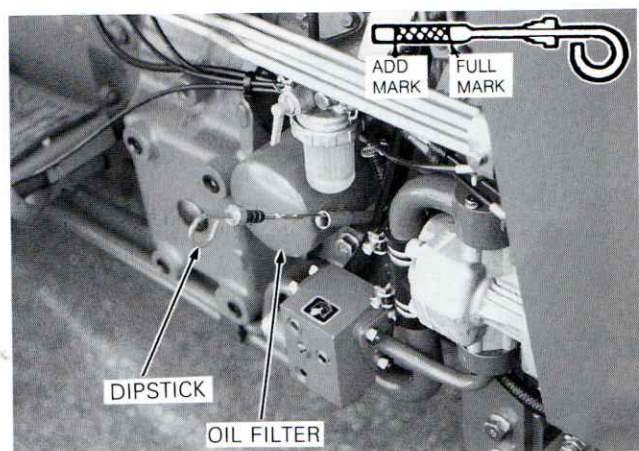

Figure 34 — Engine Oil Level Dipstick and Filter
1. With the tractor standing level, and after the engine has been stopped for a period of time, check the oil level with the dipstick, Figure 34.
2. Unscrew the oil filter, Figure 34, catching the used oil in a suitable container placed below the filter. Discard the filter.